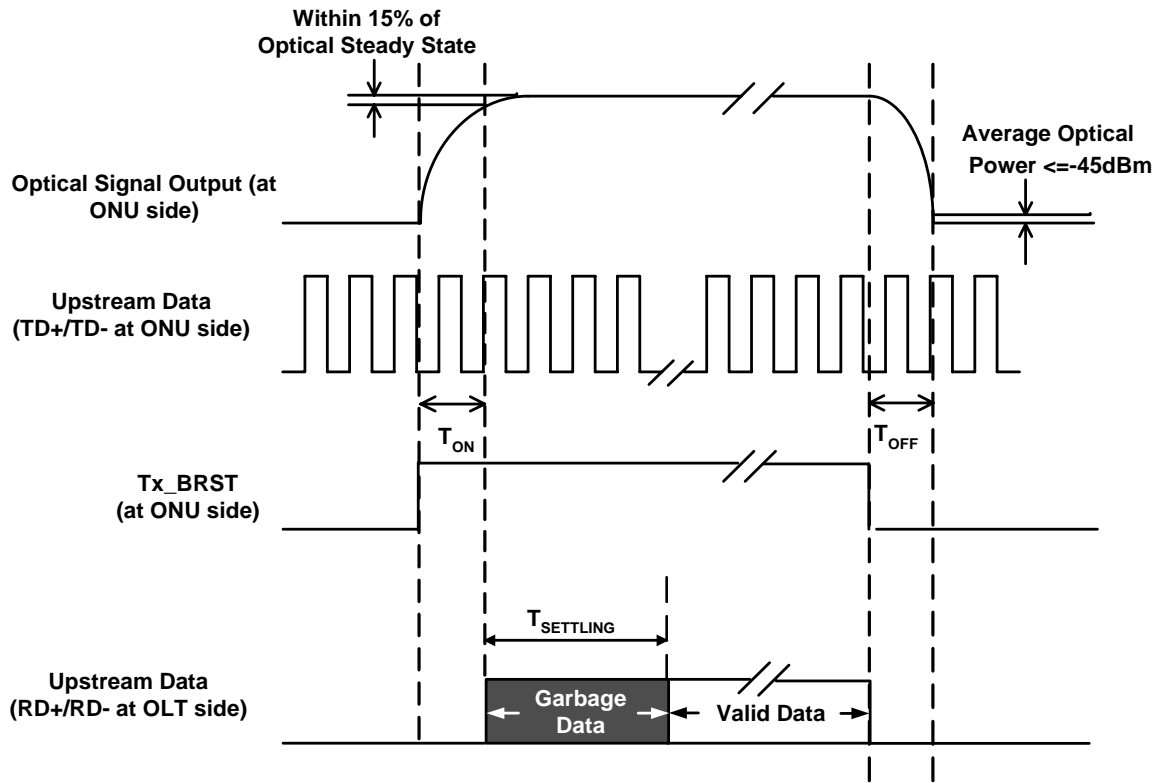

Figure 1, Timing Parameter Definition in Burst Mode Sequence (Sole ONU Application)
7. See Figure 1, 2. For multiple ONUs application, It isn't easy to test T_{SETTLING} directly, but there is a relationship T_{SETTLING} = T_{GAP}-T_{GUARD} when T_{ON}=T_{OFF}, then T_{SETTLING} can be calculated by T_{GAP} and a certain guard time at ONU side.